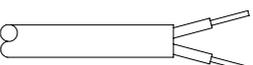

fig.1.
- Rotate the two security locks on the one end of the fitting to release the end cap shown in fig.1.